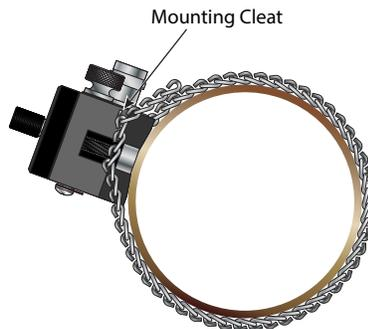

Figure 7: Transducer mounting chain hooked onto mounting cleat
5. Wrap the mounting chains around the pipe and secure the chains to their respective mounting cleats. See Figure 7.